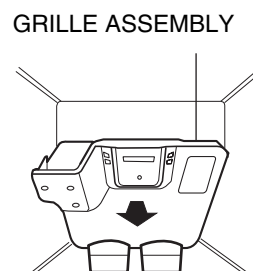

Figure 1
1. Disconnect water supply tube by pushing back on the disconnect ring (3).-FIG. 1
2. Open door. Loosen top hinge cover screw (1).
- Use flat tip screwdriver to pry back hooks on front underside of cover (2). Lift up cover.
5. Disconnect all 3 wiring harnesses (4). Remove the grounding screw (5).
6. Rotate hinge lever (6) counterclockwise. Lift top hinge (7) free of hinge lever latch (8).
1. Pull out the grille assembly. (Figure 1)